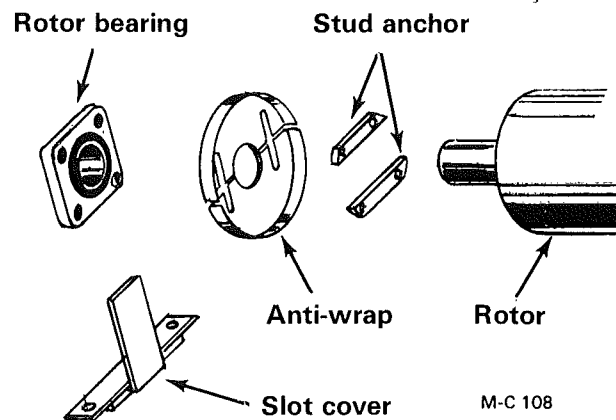

Figure 28
4. Place the four mounting capscrews through the bearing and mower body. Refer to Figure 28. Partially thread the capscrews into the nut bars. Slide the two anti-wrap halves over the capscrews. Tighten the capscrews and bearing lock collar set screws.